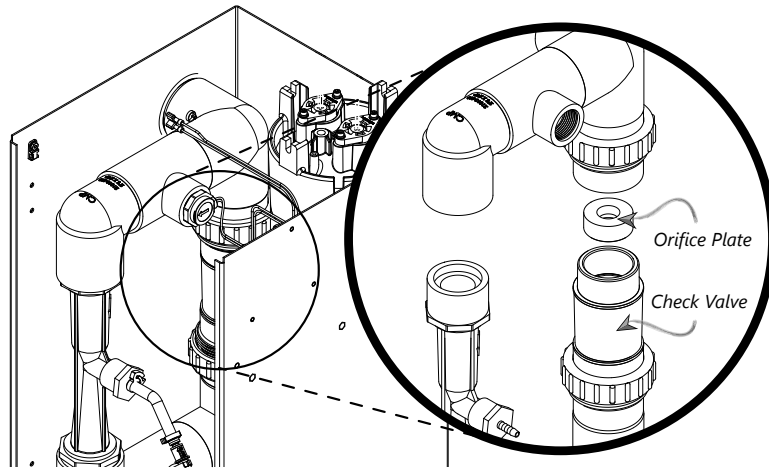

Figure 6b : Orifice Plate Installation
2. Orifice Plate Installation (Fig 6b).